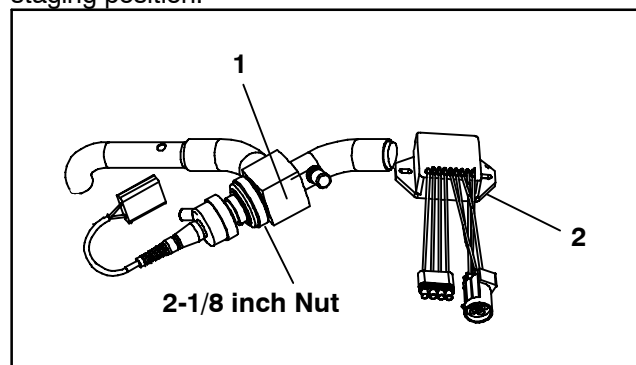

Figure 44. Suction Modulation Valve (SMV)
1. Stop the unit, disconnect the four pin connector from the stepper module to the valve (see Figure 44) and attach the SMA-12 stepper drive to the connector going to the valve.